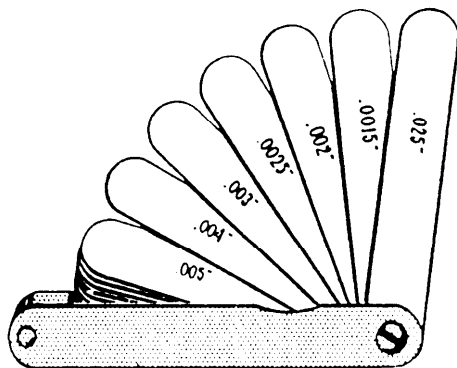

Figure 1-21.—Feeler (thickness) gauge.
**FEELER GAUGE.**—Use a feeler (thickness) gauge (fig. 1-21) to determine distances between two closely mating surfaces. When you use a combination of blades to get a desired gauge thickness, try to place the thinner blades between the heavier ones to protect the thinner blades and to prevent their kinking. Do not force blades into openings that are too small; the blades may bend and kink. To get the feel of using a